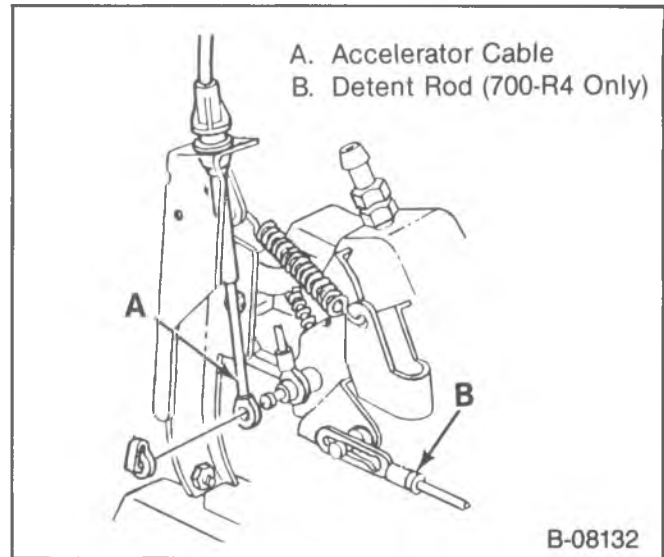

Figure 9—Accelerator Linkage
- Accelerator cable at the injection pump (figure 9).